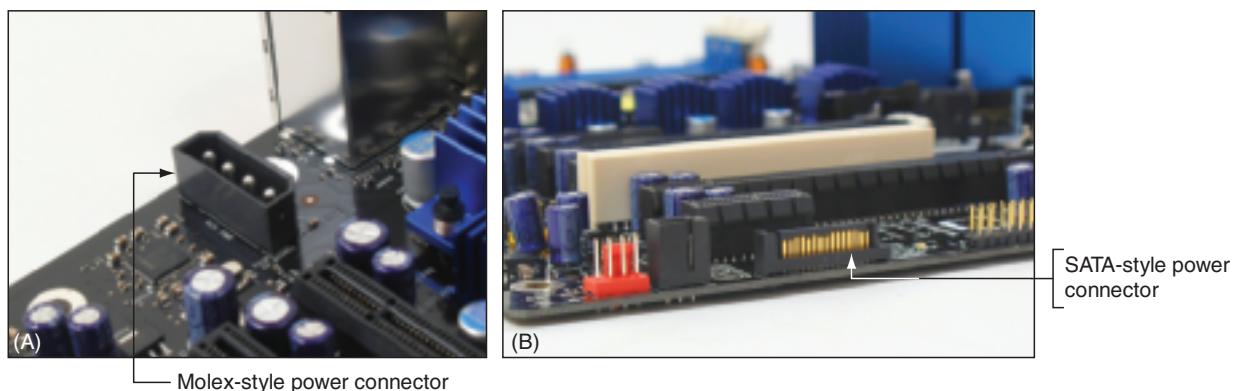

Figure 3-51 Auxiliary power connectors to support PCIe
- ▲ Some boards designed to support multiple PCIe video cards will have additional power connectors on the board to power these wattage-hungry cards. For example, Figure 3-51(a) shows a 1 x 4 Molex-style connector on one board that provides auxiliary power to PCIe graphics cards. This same board offers a SATA-style connector, shown in Figure 3-51(b). The motherboard documentation says to use just one of these auxiliary power connectors to provide additional wattage for PCIe video cards.